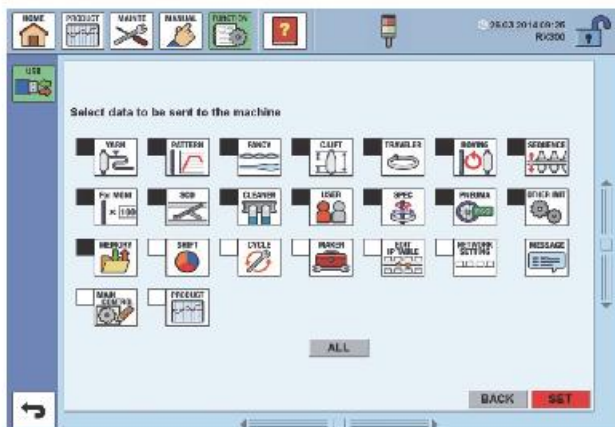

Fig.8 Upload data selection screen
- (6) Touch the [SEND] switch on the select upload file window to display the upload data selection screen (Fig. 8).